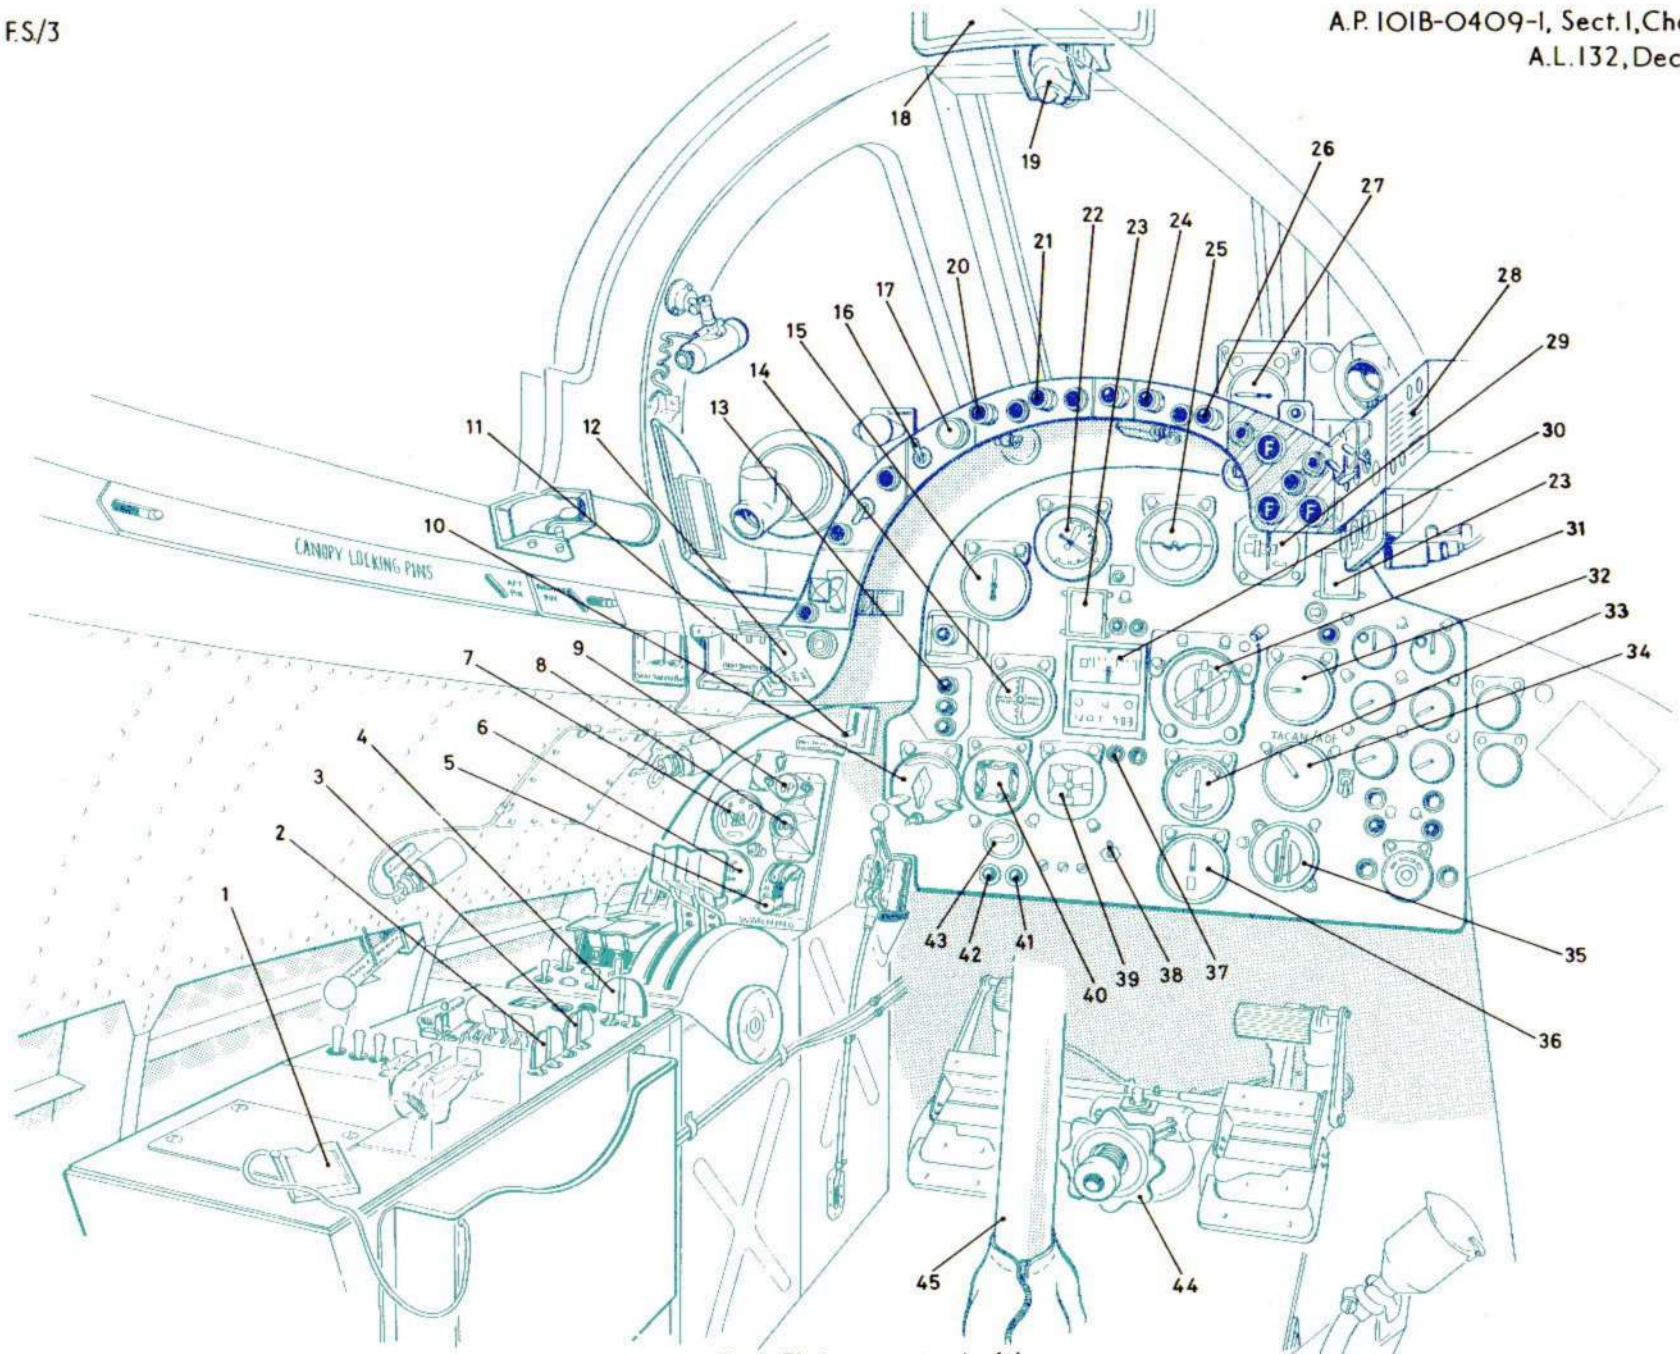

Fig. 1 Flying controls (I) 4MOD 4990 & 5007
Key to Fig. 1 - FLYING CONTROLS (1)